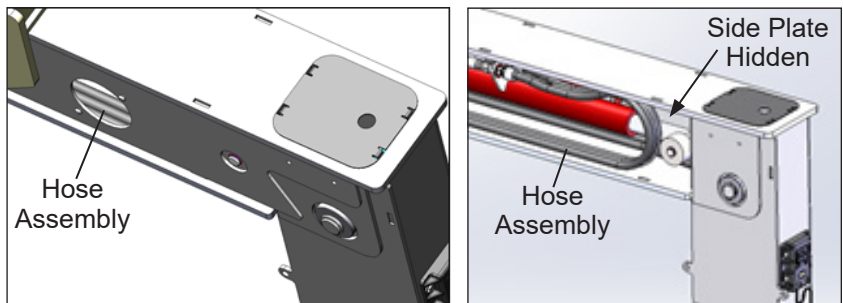

Figure 2 — Inspecting Bonded Hose Assembly
4. Use a flashlight to inspect and identify the bonded hose assembly lying on the bottom plate inside the horizontal leg, using whichever access hole gives the best view of the hose (refer to Figure 2).